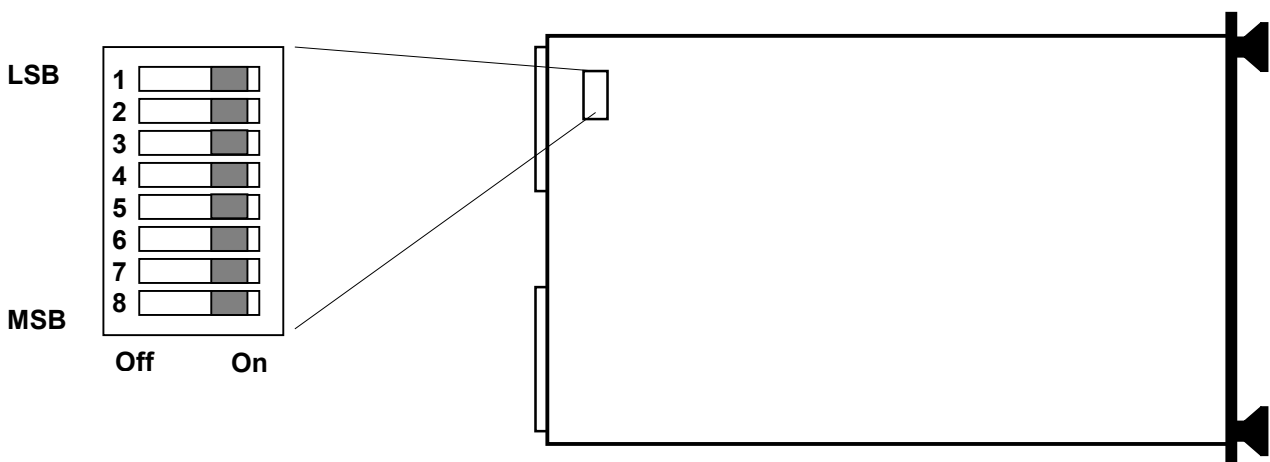

Figure 3 - Logical Address Switch Location
Figure 3 shows the location of the logical address switch on the ProDAQ 3043. Set each switch to 'Off' for a logical one (1) and to 'On' for a logical zero (0). The picture shows the address switch set to logical address zero (0).